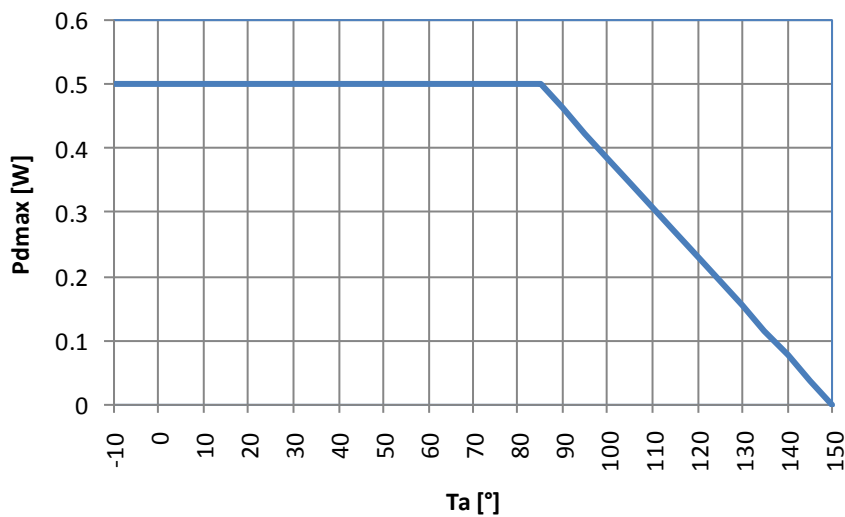

Figure 4: Allowable power dissipation (Pdmax) as a function of ambient temperature (Ta).
- (1) Reference PCB, according to JEDEC standard EIA/JESD 51-9.
- (2) De-rating applies for ambient temperatures outside the specified operating range (ref. Figure 4).